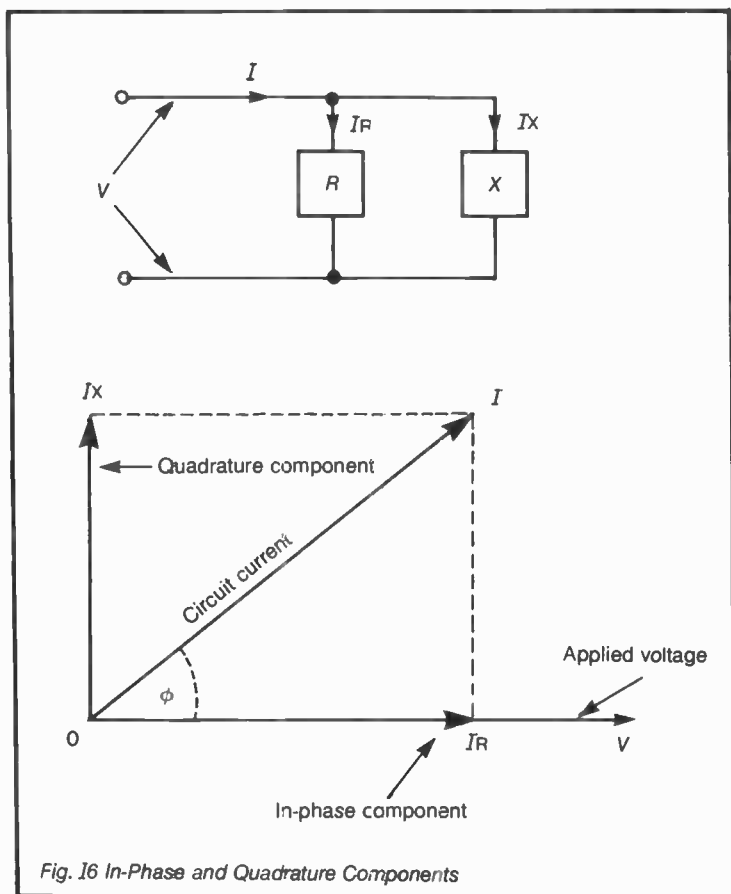

Fig. I6 In-Phase and Quadrature Components
**IN-PHASE COMPONENT** This applies to either current or voltage in an alternating current circuit. When for example an alternating voltage is applied to a circuit containing reactance, i.e. it is expressed mathematically by  $R + jX$ , then the current and the voltage are not in phase. This can be shown on a phasor diagram as in Figure I6.